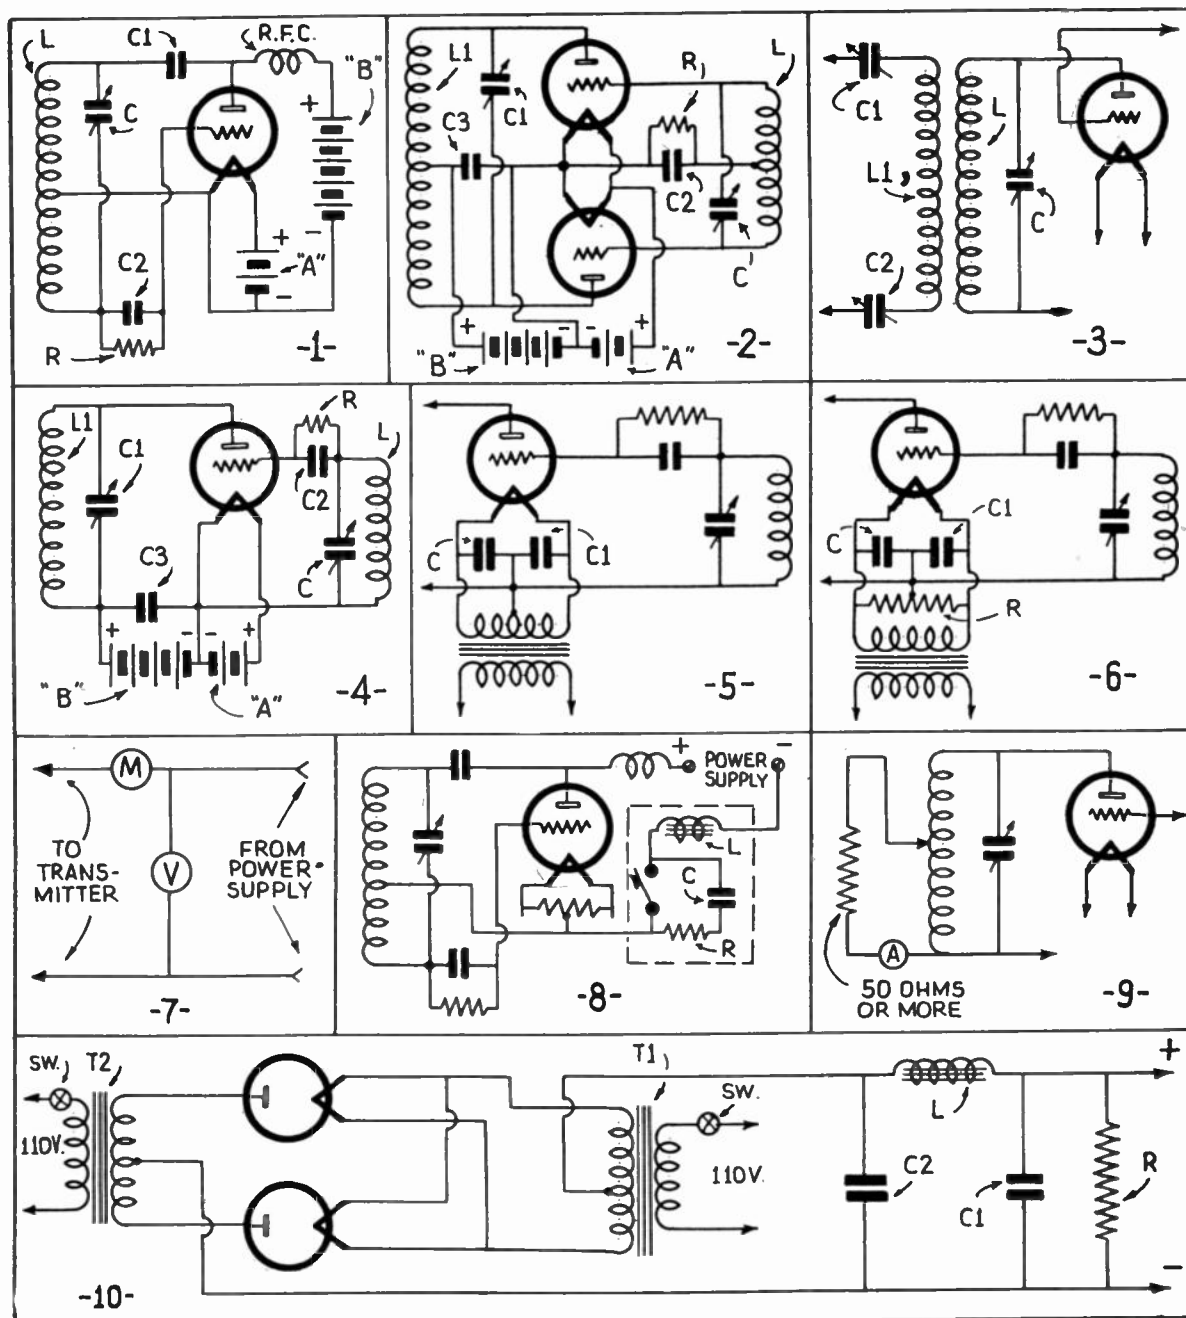

Fig. 16—Simple diagrams explained in the text.
A. A shunt fed Hartley circuit is shown in Fig. 16 (2). The filament heated by the battery A, emits electrons. The battery B charges the plate positive with respect to the filament and electrons are drawn to the plate. Any small disturbance in the circuit will cause a change in potential between the plate and grid, causing an instantaneous change in the stream of electrons to the plate. The high reactance of the choke, RFC, prevents the change in plate current from appearing in the B-battery circuit and the change in plate current causes a potential to develop between the plate and filament through the blocking condenser C1 and the section of the coil L between C1 and the filament tap. As this section of L is magnetically coupled to the section between the filament tap and the grid condenser C2 there is a potential induced between the grid and the filament. This potential operates so as to increase the change in plate current. The process continues, reinforced by the amplification of the
A. The circuit shown in Fig. 16 (2) is a push pull circuit of the tuned plate tuned grid variety. The filaments are heated and emit electrons and these are drawn to the plates causing plate current flow because of the positive potential on the plates from the "B" battery. The circuits LC and L1, C1 are tuned to nearly the same frequency. Any small disturbance in the grid circuit will cause the voltage on the grids to change with respect to the filament, however, as the grids are connected to the opposite ends of the tank circuit LC, a potential which causes the plate current of one tube to increase will cause the plate current of the other tube to decrease. These changes in plate current cause a voltage to develop across the plate tank circuit L1, C1. The voltage developed by each tube is added to the circuit because of the push pull connection. The change in instantaneous plate potential causes a change in grid potential because of feedback through the capacity between the plate and grid of each tube, and the energy feedback reinforces the original change in grid potential. The amplifying process is repeated and when there is sufficient energy transferred from the plate circuit to the grid circuit through the plate-grid capacities of the tubes to overcome grid circuit losses a state of continuous oscillations will be reached. The frequency of oscillation is primarily determined by the constants of LC and L1, C1. The grid leak and grid condenser, R and C2, perform the same action as in the Hartley circuit just described. The condenser C3 is used to keep RF out of the power supply.
A. One method is shown in Fig. 16 (3). In this case the transmitter, LC, tank is inductively coupled to the antenna by means of the coupling coil, L1. The RF currents flowing in the tank LC set up lines of force about L and these lines of force cut the coupling coil L1. When the an-
A. An oscillator using series plate feed is shown in Fig. 16 (4). In series feed the plate power is fed to the transmitter in series with the radio fre-
A. An oscillator using shunt plate feed is shown in Fig. 16 (1). In shunt feed the plate
A. The circuit is shown in Fig. 16 (5). As the filament is heated by alternating current a grid return to one side of the filament would therefore introduce an AC voltage into the power supply which voltage would cause the plate current of the tube to vary at the supply frequency and would cause AC modulation. When the return is connected to the center tap of the filament transformer the voltage of one half of the transformer is neutralized by an opposite voltage in the other half of the transformer and there is no AC introduced into the power supply by the filament transformer and consequently no AC modulation from this source. The condensers C and C1 are used to provide a low impedance path for the RF flowing to the filament, by-passing it across the transformer windings.
A. The circuit is shown in Fig. 16 (6). In this case a resistor R, is used to obtain the electrical midpoint of the circuit. The grid return is made to the midtap of the resistor which is of sufficient resistance to limit the current flow through itself to a reasonable value. As the voltages across the two halves of the resistor are equal and of opposite potential there is no AC introduced into the power supply by the filament transformer and consequently no AC modulation from this source. The filament by-pass condensers perform the same action as in the previous question.
A. The circuit is Fig. 16 (1). When the grid is positive during the radio frequency cycle, electrons are attracted to it causing a flow of grid current. This current is uni-directional and cannot flow through the condenser C2 as this condenser cannot pass direct current. This grid current therefore flows through the grid leak and as a result of the current flow in the resistor there is a voltage set up across it. The value of this voltage is equal to the product of the resistance R in ohms and the grid current in amperes. The current flows in such a direction so as to place a negative bias on the grid. The grid and filament when the grid is positive act as a rectifier and this half wave rectifier rectifies radio frequency current changing it into DC for bias.
A. See Fig. 16 (7) for the diagram. The voltmeter V reads the voltage at the plate supply terminals of the oscillator and the plate milliammeter M reads the plate current in milliamperes. The plate power input is then found by multiplying the two readings of voltage and milliamperes and dividing by 1000. The milliammeter should be placed as shown so that the reading indicates the current drawn by the transmitter alone and does not indicate in addition the current drawn by the voltmeter which would be the case if the milliammeter was placed between the power supply and the voltmeter.
A. See Fig. 16 (8). The choke L is placed in series with the key and because of its inductance this iron core choke prevents surges in current when the key is closed and causes a gradual building up of plate current. Since the choke stores current and this current is released when the key is up the plate current falls off gradually. This prevents key clicks as it is the sudden surges of current and consequent sudden surges of transmitter power that cause them. Arcing at the key is prevented by the condenser C which is used to absorb the energy released by L when the key is opened. C retains a charge when the key is open however and it is necessary to insert the resistor R to prevent sparking when the key is closed. When L, R, and C are correctly proportioned key clicks will be eliminated and sparking at the key will be minimized.
A. A dummy, see Fig. 16 (9), antenna is used to dissipate the power output of a transmitter without radiating it. With it power output can be measured. The dummy is useful in tuning adjustments where it is necessary for the transmitter to deliver power but where radiation of power is not necessary.
A. See Fig. 16 (10) for diagram. The filaments of the rectifiers are heated by the stepdown transformer T1 and the plates of the rectifiers are connected to the ends of the high voltage transformer, T2. The ends of the secondary winding of T2 alternately become positive with respect to the mid-tap of the secondary and current flows through each rectifier tube when its plate is positive. Since current flows in each tube only when its plate is positive the current in the output of the rectifiers is uni-directional although of rapidly varying voltage. This rectified voltage is applied to the filter which smooths out these voltage variations or ripple. The filter choke and the condensers store